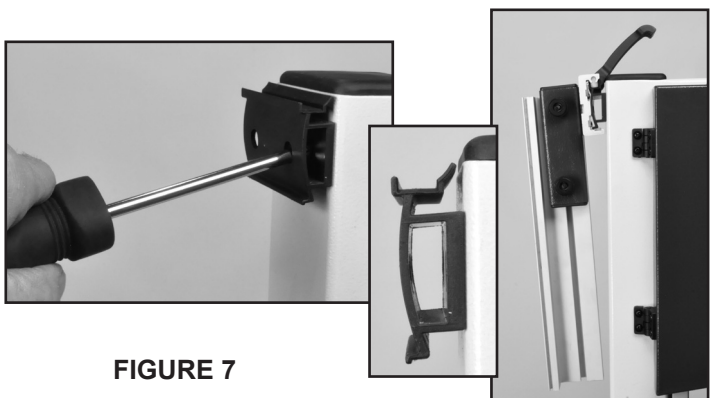

FIGURE 7
1. Install the Fence Storage Hanger Panel (#62) to the top, left side of the column with two Phillips Screws (#63). See Figure 7, which shows the proper position of the hanger's top and bottom lips. The wider, double lip should be at the top, the single lip at the bottom.